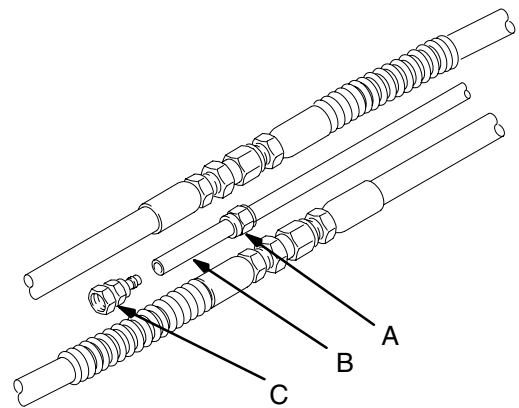

Fig. 2
4. Cut the uncoupled air hoses (B) to a length that will be easy to couple to the next air hose. See Fig. 2.
- a. Slide the male end of the sleeve (A) over the hose (B).
- b. Grease the barbed end of the stud (C) and push it into the hose until it seats properly.